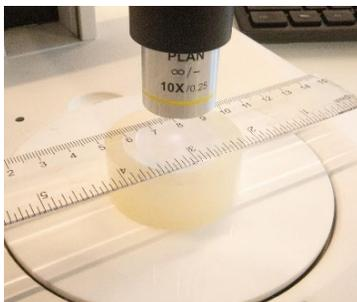

Figure 1
1. Place the ruler on top of the provided roll of tape under the scanner (Figure 1).